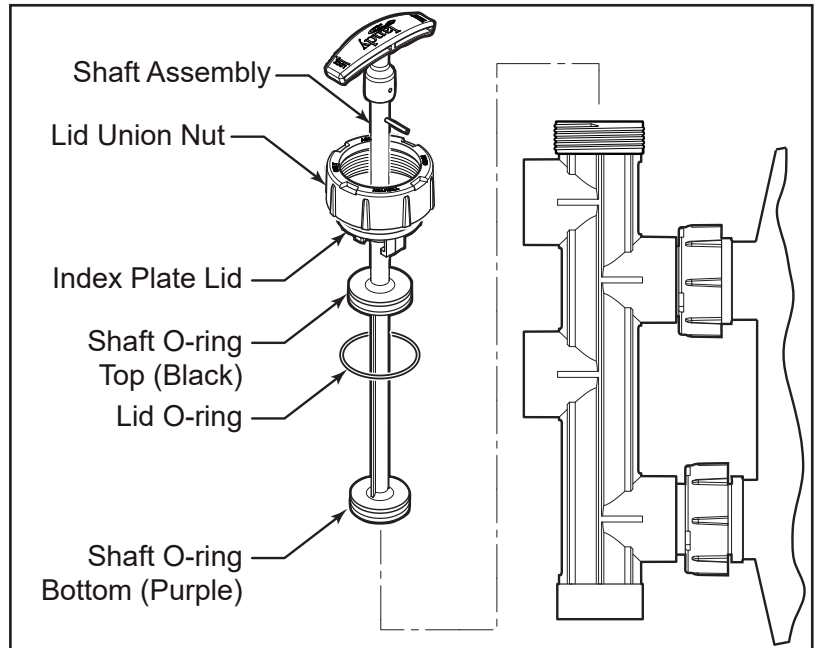

Figure 10. Remove slide valve Shaft Assembly
3. Grab the slide valve handle and pull the shaft assembly out of the valve. See Figure 10.
4. Grab the slide valve handle and pull the shaft assembly out of the valve. See Figure 10.